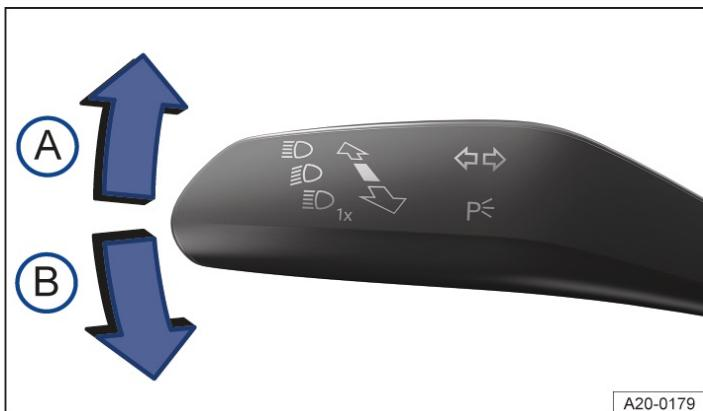

Fig. 1 On the left-hand side of the steering column: turn signal and main beam lever.
2. Move the turn signal and main beam lever from the centre position to the following position → *Fig. 1*: